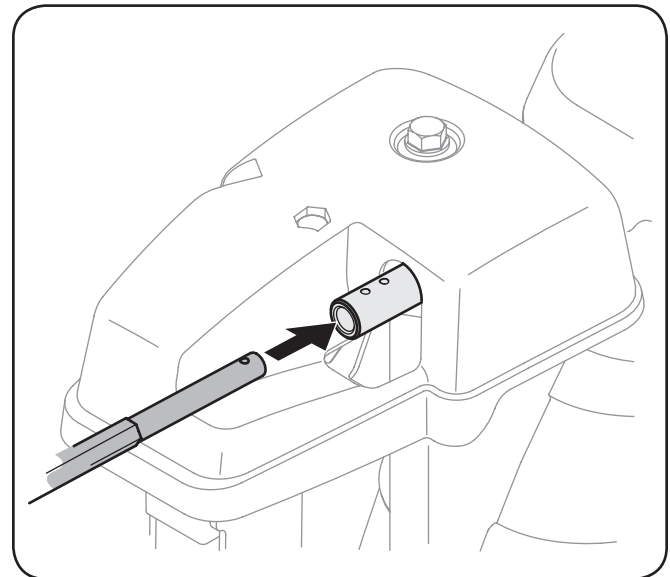

Figure 3-7
- Insert chute control rod into chute control head. Push rod as far into chute control head as possible, keeping the holes in the rod pointing upward. See Figure 3-7.